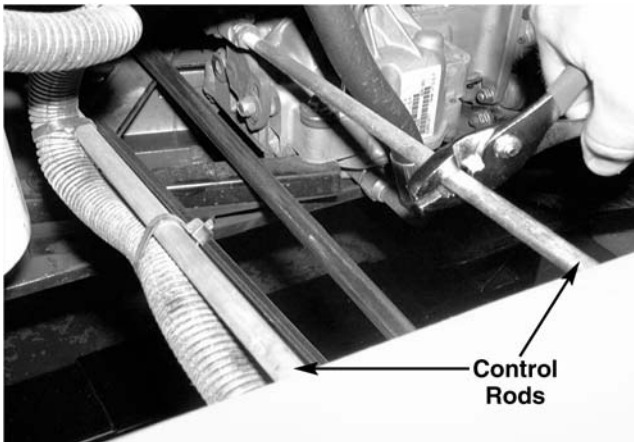

Figure 10-19.
32. Rotate the hydrostatic control rods clockwise or counter-clockwise until the rear wheel assemblies come to a complete stop. See Figure 10-19.